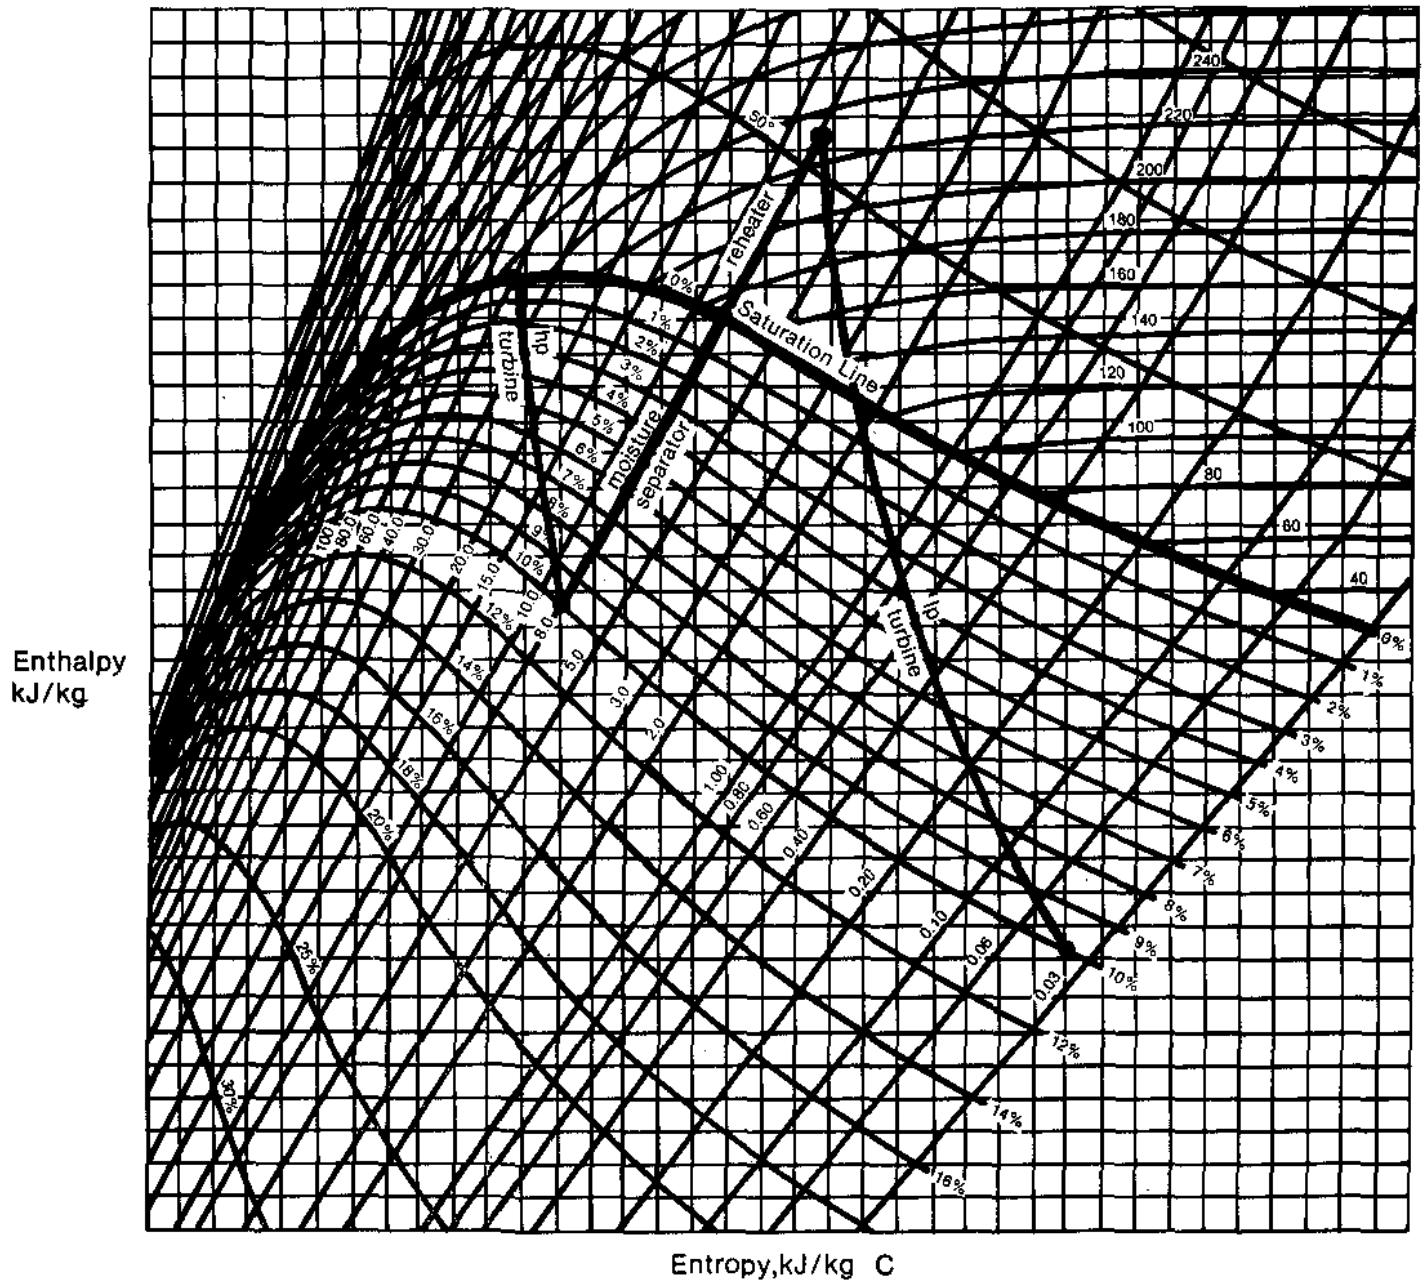

Figure 6.17
6.4) Your answer should look like Figure 6.17.